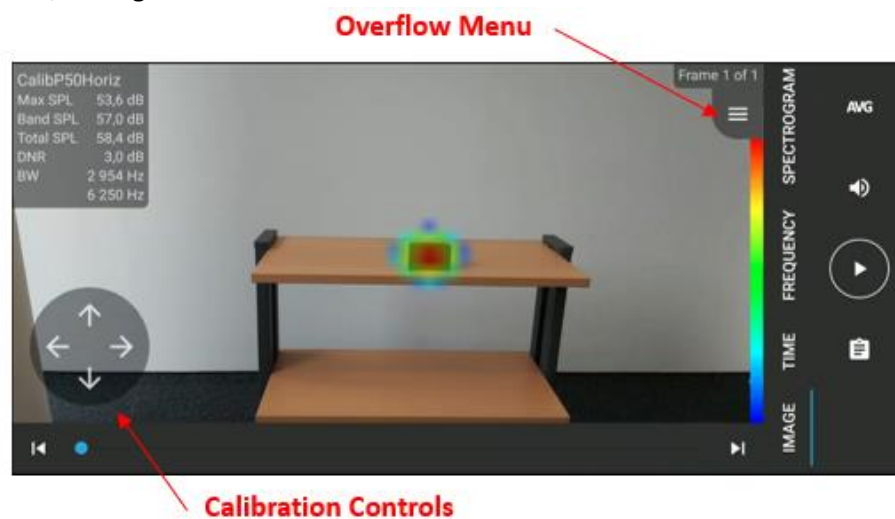

Figure 28 Aligning the acoustic source and the optical image of the loudspeaker.
3. Use the displayed cursor keys to align the acoustic source and the optical image of the loudspeaker, see Figure 28.